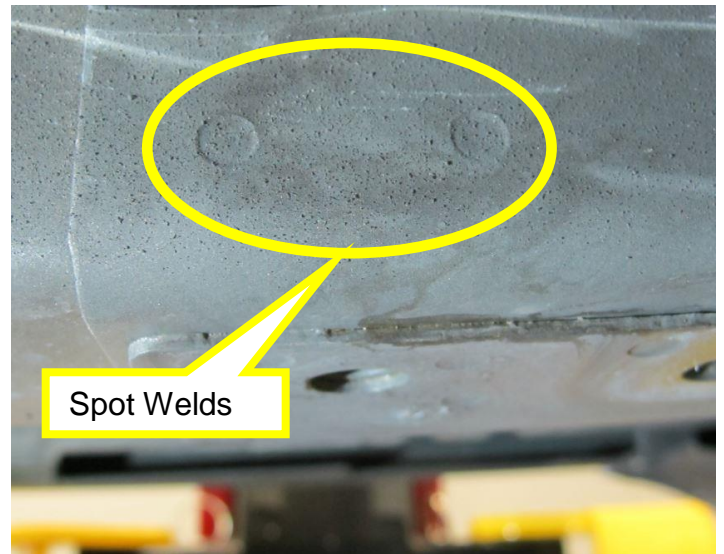

Figure 6
6. Using a small center punch, make an indent in the center of each spot weld noted in Figure 6 on the inner and outer (LH) front frame member.